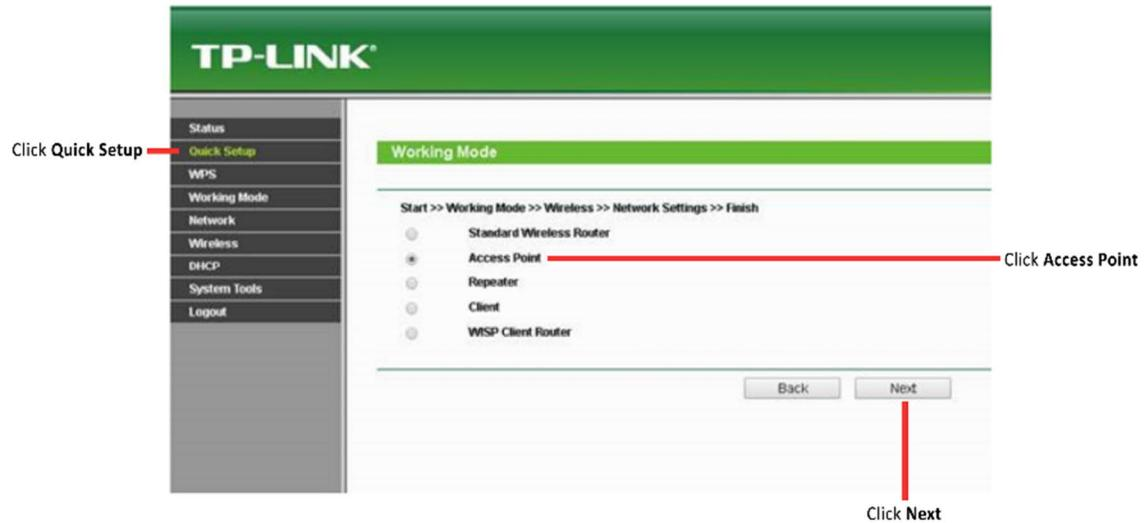

Figure 54: Start Router Configuration
5. On the left panel, click Quick Setup. (Figure 54)
7. In the *Main Panel*, select the Access Point button. (Figure 54)